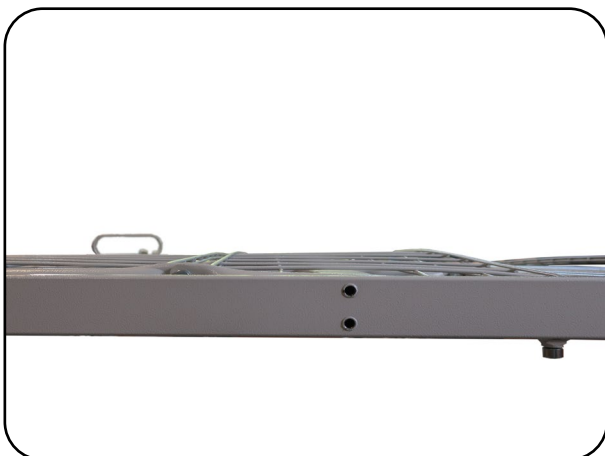

Fig. 6.4.02 – Assembling the side bar holder
2. Remove the plugs from the threaded holes of the longitudinal tube (Fig. 6.4.02).